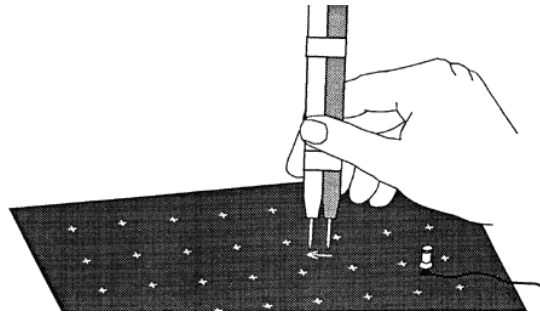
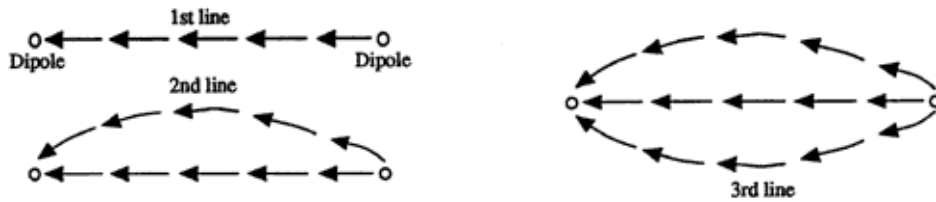

Figure 4: Directional Tracking
Figure 5: Electric Field Lines
2. (see Figure 4). Note the voltmeter reading as you touch the lead at each new spot on the paper. When the potential is the highest, draw an arrow on the paper from the one lead to the other, but always make sure you are going from the high potential to the low potential (see Figure 5). Then move the ground lead to the tip (head) of the arrow. Repeat the action of pivoting and touching with the front lead until the potential reading in a given direction is highest. Draw a new arrow. Repeat the action of putting